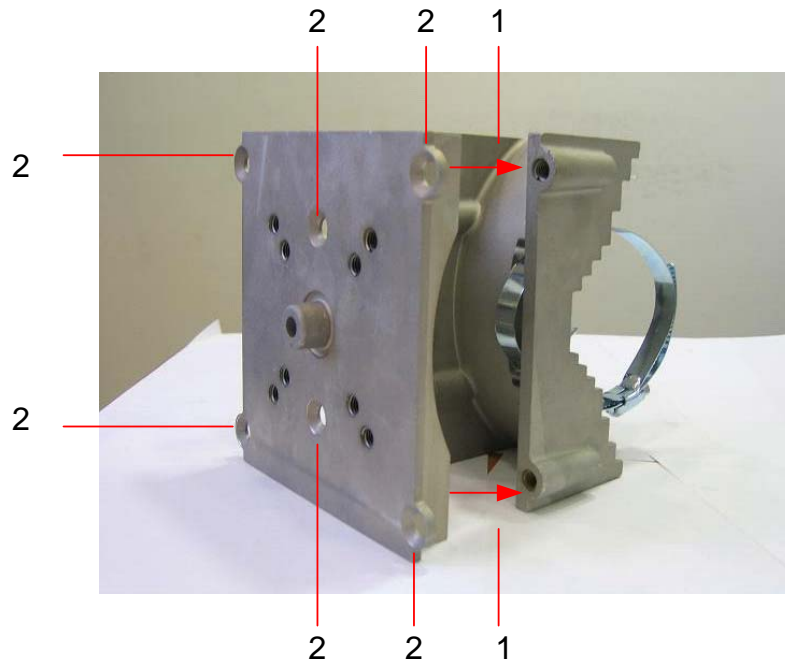

Figure 3.10. **Attaching the Back Plate to the Pole Bracket**
4. Attach the back plate to the pole bracket as labeled #1 in Figure 3.10
5. Insert the six bolts into the holes in the back plate labeled #2 in Figure 3.10 and tighten.